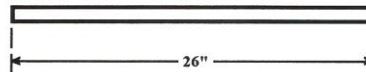

FIGURE 3
2. CUT THE REAR FRAME PIECE 26" LONG FROM 1" TUBING. SEE FIGURE 3 BELOW.